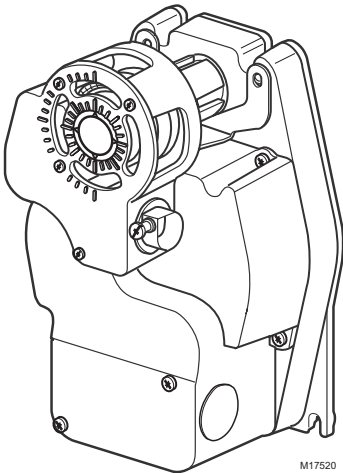

Fig. 5. ML4125 DCA with Auxiliary Switch.
2. Align the switch hub with the set screws on the actuator. See Fig. 5.